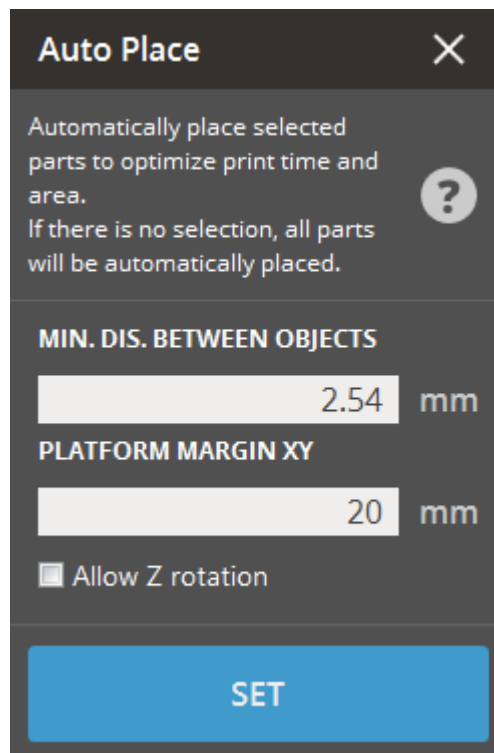

Figure 14 Auto Place command
- This opens the **Auto Place** command (Figure 14)